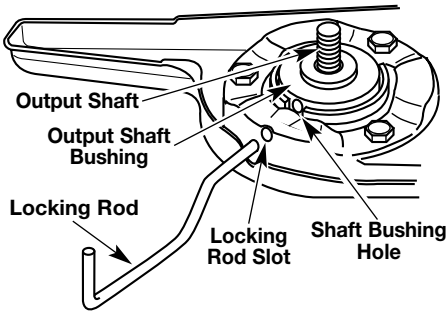
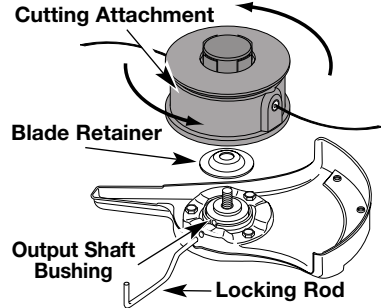

Fig. 15
Fig. 17
2. Align the shaft bushing hole with the locking rod slot and insert the locking rod into the bushing hole (Fig. 15).
5. Align the shaft bushing hole with the locking rod slot and insert the locking rod into the shaft bushing hole. (Fig. 15). Place the blade retainer on the output shaft with the flat surface against the output shaft bushing as shown in Fig. 17. Screw the cutting attachment counterclockwise onto the output shaft. Tighten securely.